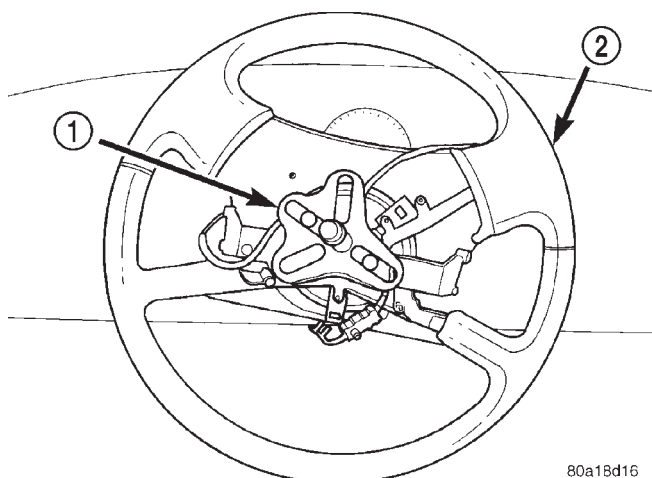

Fig. 16 Puller Installed On Steering Wheel
(19) Install a steering wheel puller on the steering wheel (Fig. 16).